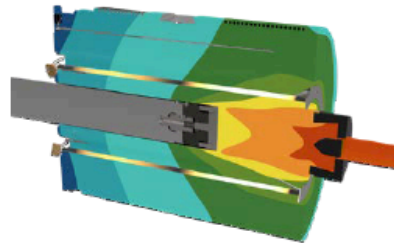

Figure 1. A QR container with saturation thermocouple showing the thermal map during extrusion.
Castool Tooling Systems, headquartered in Uxbridge, ON, Canada, developed Quick Response (QR) containers in which the heating elements are installed close to the liner (Figure 1) in order to promote a stable thermal gradient, allowing heat to dissipate as developed by the process. The mantle materials also have an effect on the rate of thermal dissipation. A comparison of the thermal maps for each type of container is shown in Figure 2.